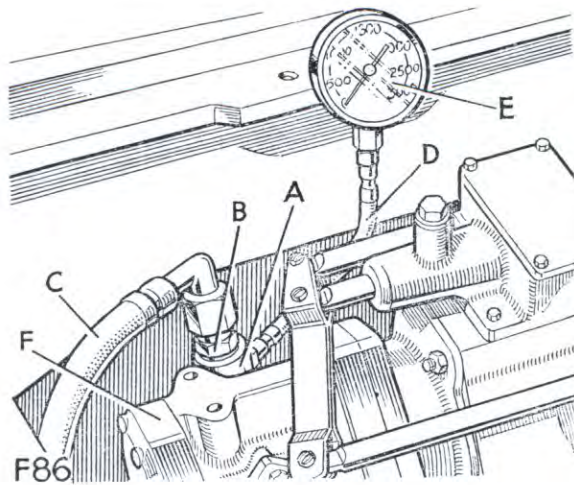

Fig. 1. Pressure gauge fitted to hydraulic pump
2. Assemble the elbow, adaptor with seal, jump hose and 3,000 lb/sq.in. gauge to the hydraulic pump as shown in Fig. 1.